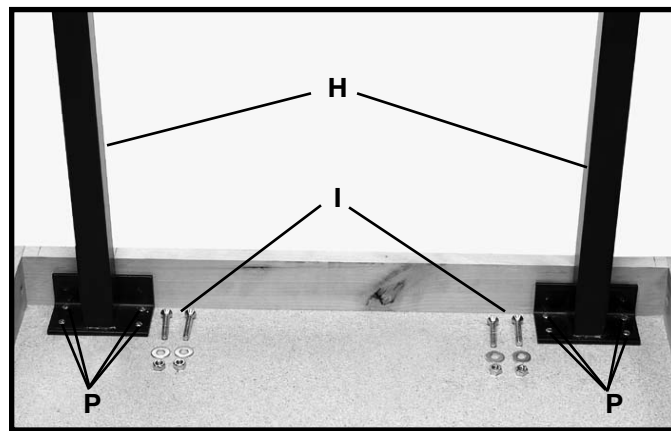

Fig. 83
8. Position the two legs (H) as shown in Fig. 83. Assemble the four 1/4-20 x 1-1/2 long leg mounting screws, washers and hex nuts (I) into holes drilled in step 7 and tighten. Mark the eight holes (P) to attach the legs to the table top. Remove the screws and two legs (H). Using a 1/16 drill bit, drill the eight holes 1/2 deep.